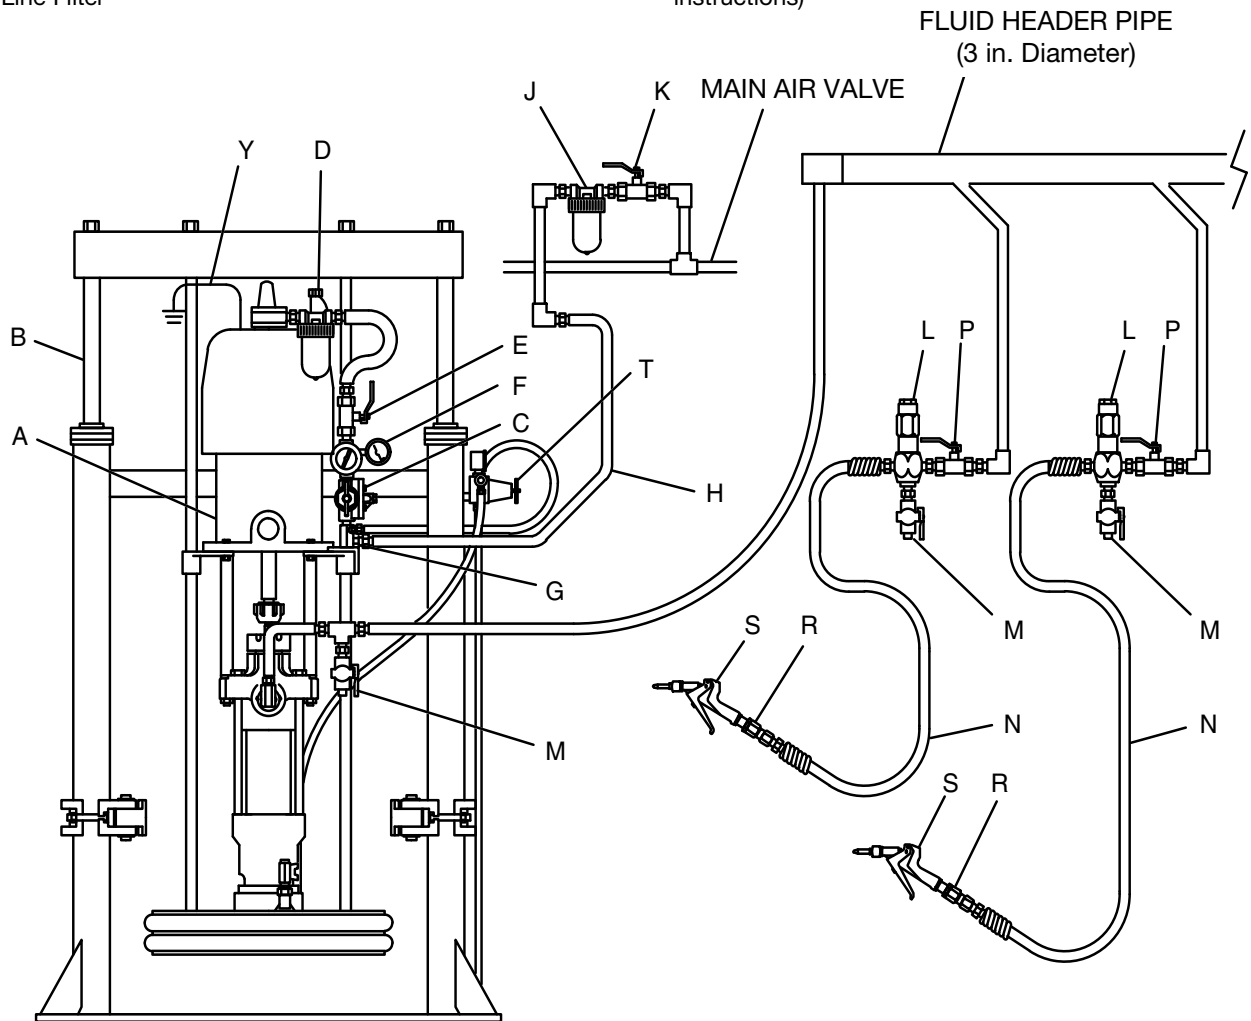

Fig. 3
The Typical Installation shown in Fig. 3 is only a guide for selecting and installing system components and accessories. Contact your Graco distributor for assistance in designing a system to suit your particular needs.
Mount the pump (A) to suit the type of installation planned. Fig. 3 on page 8 illustrates a ram-mounted pump in a multi-gun header system. Pump dimensions and the mounting hole layout are shown on pages 36 and 37.
Install the following accessories in the order shown in Fig. 3, using adapters as necessary:
Install the following accessories in the positions shown in Fig. 3, using adapters as necessary:
- Install a **fluid shutoff valve (P)** at each gun drop, to isolate the gun and fluid accessories for servicing.
- Install a **fluid drain valve (M)** near the pump fluid outlet, and at each gun station. The drain valves are required in your system to relieve fluid pressure in the displacement pump, hose and gun (see the **WARNING** at left). Drain valves at the gun stations may be mounted in the base of a **fluid regulator (L)**, using an adapter.
- **A fluid regulator (L)** controls fluid pressure to the gun/valve, and dampens pressure surges.
- **A gun or valve (S)** dispenses the fluid. The gun shown in Fig. 3 is a high pressure dispensing gun for highly viscous fluids.
- **A gun swivel (R)** allows freer gun movement.